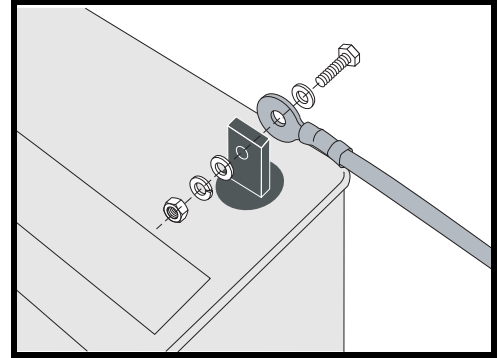

Figure 13. Battery Removal/Installation
4. Disconnect the battery cables from the battery terminals by sliding back the terminal boots and unscrewing the nut from the bolt. **See figure 13.**